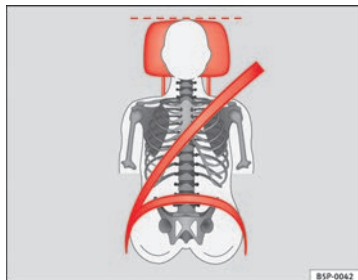
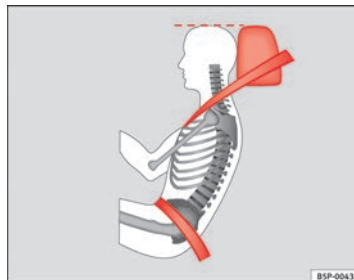

Fig. 69 Front view: head restraints and seat belts correctly adjusted
Fig. 70 Side view: head restraints and seat belts correctly adjusted
- Adjust the head restraint so that the top is at the same level as the top of your head or as close as possible to the same level as the top of your head, at least at eye level ⇒ fig. 69 and ⇒ fig. 70.